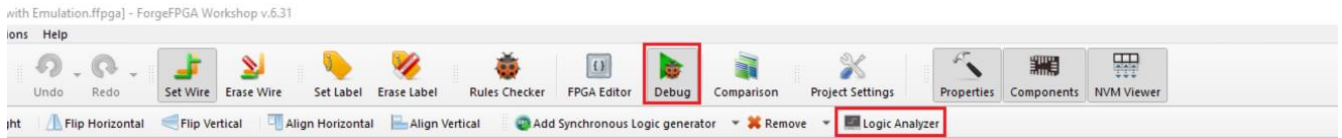
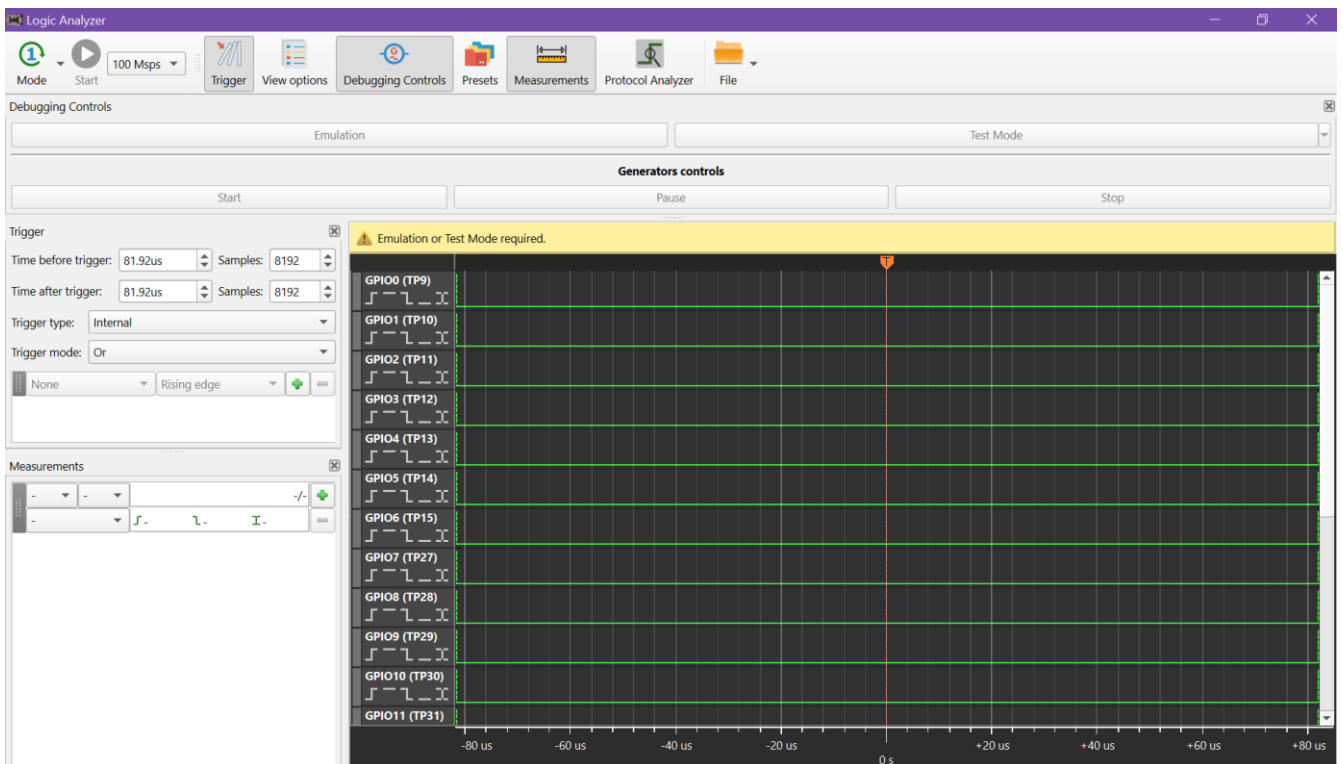

Figure 11: ForgeFPGA tool bar
Figure 12: Logic Analyzer window
Below are the different features in the Signal Wizard for Synchronous Logic Generator (Figure 12)
The logic analyzer allows the user test how the design behaves on the ForgeFPGA silicon during emulation whether testing mode without external tools. The user can pop up the logic analyzer (Figure 12) by clicking the Logic analyzer button on the ForgeFPGA tool bar (Figure 11).
- From the ForgeFPGA tool bar (Figure 12) select the FPGA Editor tab.